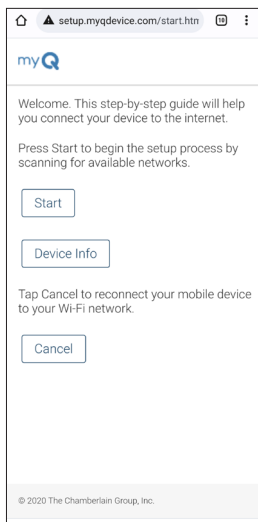

Figure 2
3. Open a web browser (e.g., Edge, Chrome) and enter either setup.myqdevice.com or 192.168.1.1. (See Figure 2)